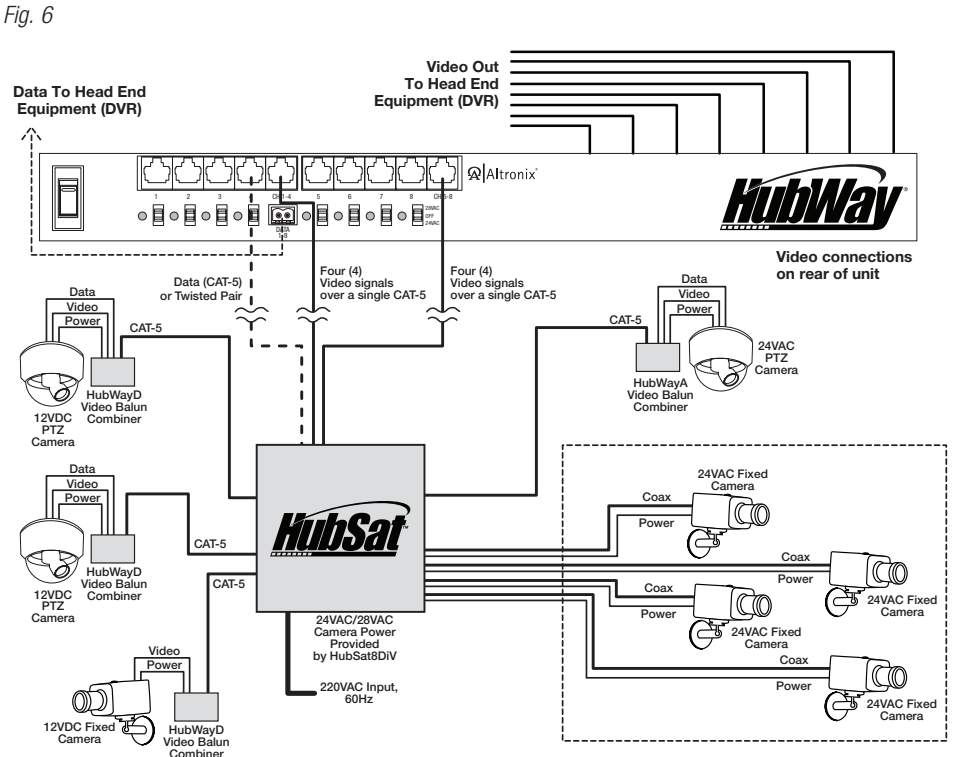

Fig. 6a - Alternate 24VAC fixed camera hookup.
Alternate 24VAC Fixed Camera Hookup (Fig. 6a, pg. 9).
2. Connect one end of the coaxial cable to the BNC connector marked [Video1] on Circuit Board A (Fig. 1a, pg. 6). Connect the opposite end of the coaxial cable to the BNC video output of camera 1 (Fig. 6a, pg. 9).